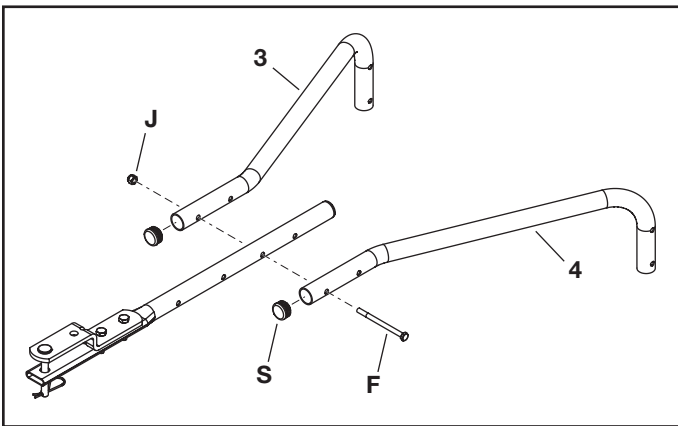

FIGURE 2
STEP 2: (SEE FIGURE 2)
- Attach the hitch support tubes (3), and (4) to the hitch tube using one 1/4" x 3-1/2" hex bolt (F) and 1/4" nylock nut (J). **Do not tighten completely.**